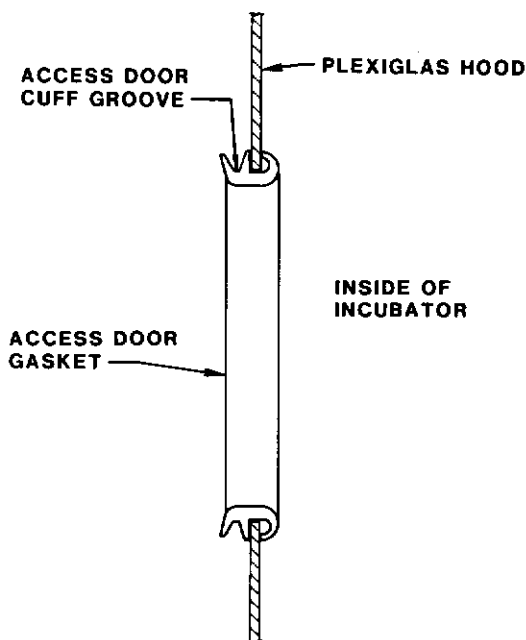

FIGURE 4.4 INSTALLATION OF ACCESS PORT GASKET
7. INSTALL AN ACCESS PORT GASKET behind each access port as shown in Figure 4.4.